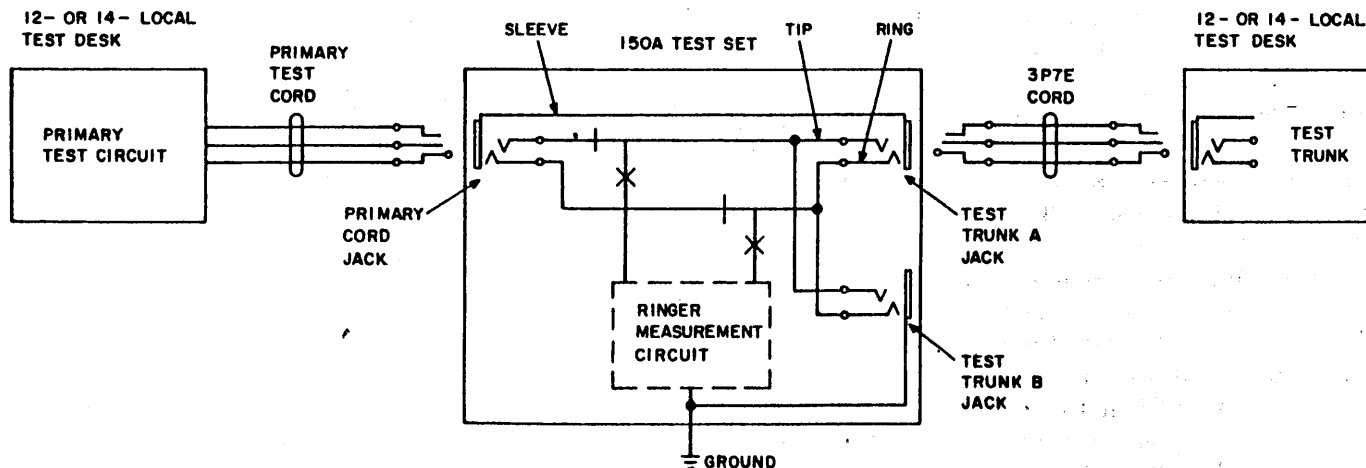

Fig. 3—Circuit Arrangement for Interfacing 150A Ringer Counter Test Set With 12- or 14-Type Local Test Desk
- **PRIMARY CORD** jack is used to connect the RCTS to the local test desk or local test cabinet. The primary test cord from the 12- or 14-type LTD is plugged into the PRIMARY CORD jack. A patch cord is used to connect the No. 3 LTC or the jack panel for the No. 3 LTC to the PRIMARY CORD jack on the RCTS. Before the START button on the RCTS is operated to measure a line, the tip, ring, and sleeve leads for the test trunk are directly connected from the TEST TRUNK A jack to the PRIMARY CORD jack. This arrangement permits using the test circuit on the LTD to test the line for trouble. When the START button is operated and the RCTS is in a test cycle to measure a line, the transfer contacts in the RCTS isolate the tip and ring leads from the test circuit of the LTD and connect the ringer measurement circuit from the RCTS to the test trunk (Fig. 3).
line, the tip, ring, and sleeve leads for the test trunk are directly connected from the TEST TRUNK A jack to the PRIMARY CORD jack. When the START button on the RCTS is operated, a set of transfer contacts in the RCTS isolates the tip and ring leads from the PRIMARY CORD jack and connects the ringer measurement circuit from the RCTS to the TEST TRUNK A jack (Fig. 3).